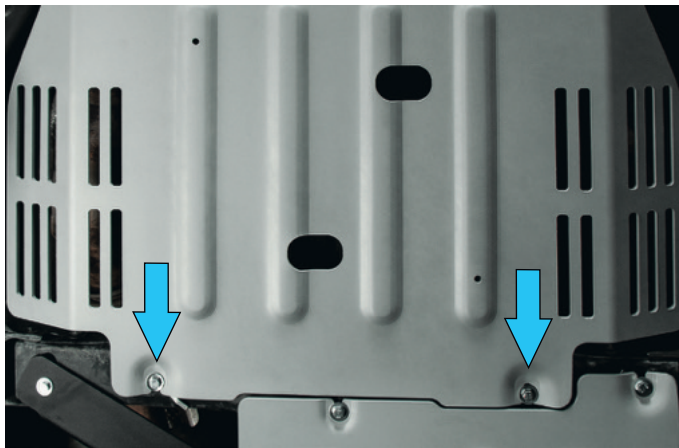

Fig. 3
3. Put the gearbox skid plate (item 1) on installed bolts M8x25 and washers 8 from step 2 as shown in fig.3.